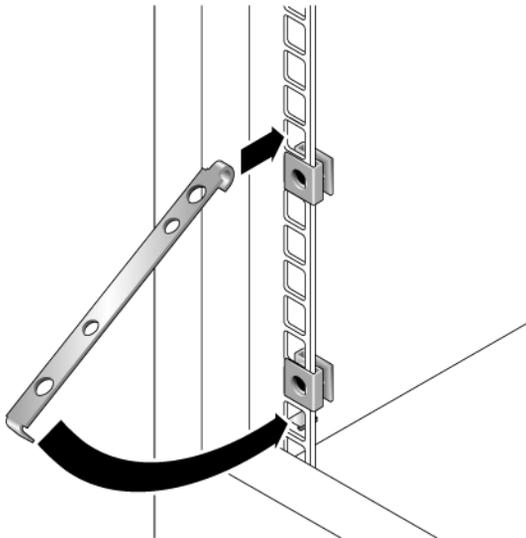

FIGURE 2-12 Inserting the Cabinet Rail Adapter Plate on the Cabinet Rail
2. Hook a cabinet rail adapter plate over the front of the cabinet rail. \(FIGURE 2-12\)